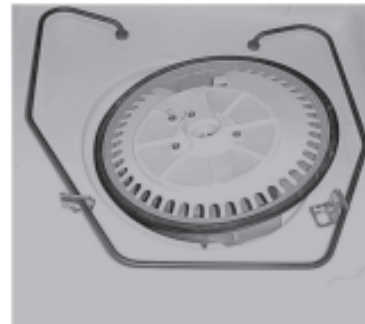

FIGURE 8
18. Pull the wash-motor assembly forward slightly and lift it out of the dishwasher tub. (Fig. 8).